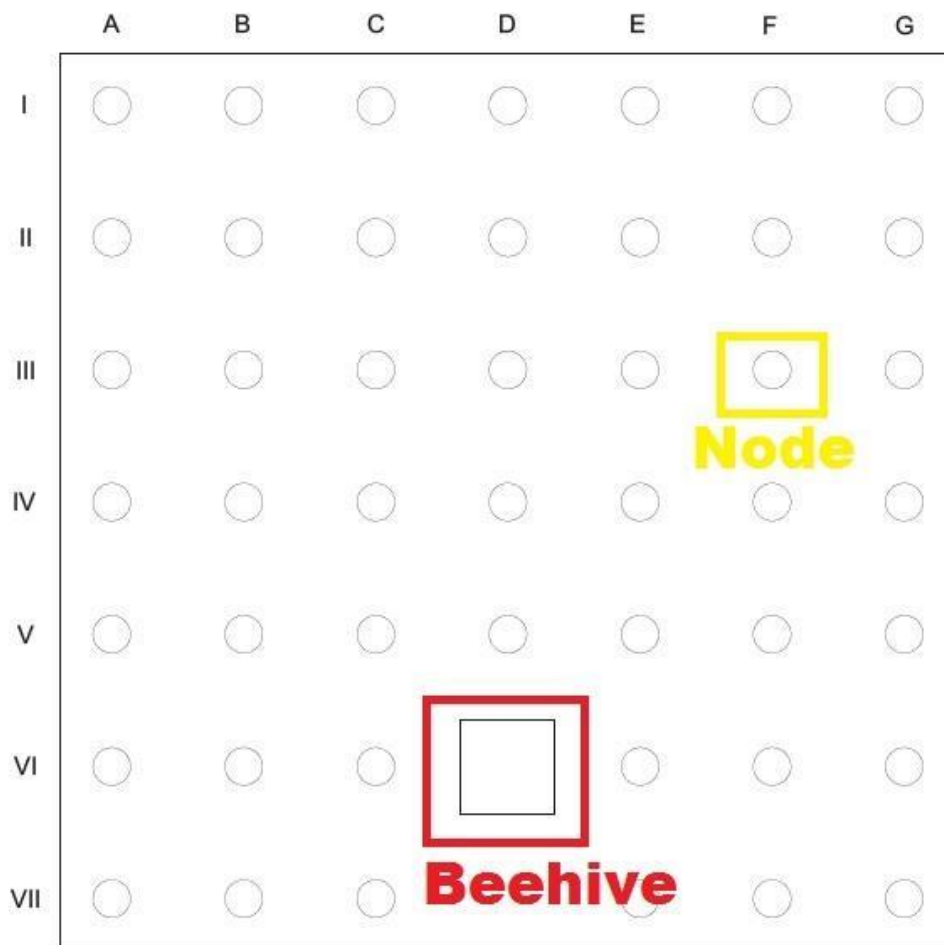

Figure 1: Arena Design
- **Plants (P):** These are platforms with an **open circuit and exposed terminals**. They are of 3 types:
- **Red Daylily (RD):** This is represented by Red LED cluster in the arena.
- **Green Carnation (GC):** This is represented by Green LED cluster in the arena.
- **Blue Delphinium (BD):** This is represented by Blue LED cluster in the arena.
- The arena is a grid. Rows are referenced using Roman digits I through VII and columns are referenced using English alphabets A through G. An intersection on the grid is called Node. An example Node IIIF is shown in Figure 1.
The complete arena with the above mentioned details for this theme is depicted in Figure 1. The arena for this theme is a simplified abstraction of a garden with a Beehive and Plants placed on it. Each team has to prepare their arena. Preparing the arena consists of 6 major steps: